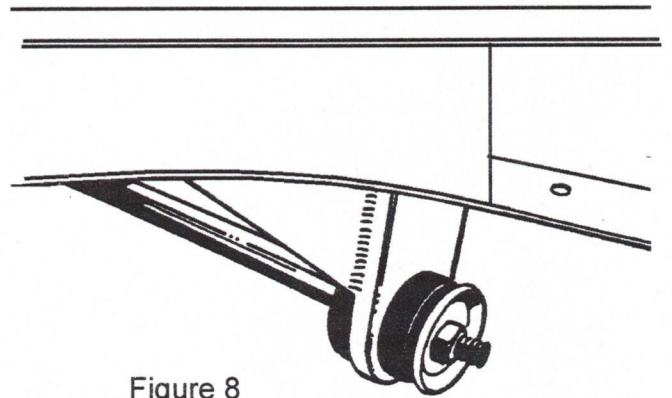

Figure 8
12. Install the strut rod onto the control arm. Now, assemble onto the strut rod the large rubber bushings, including the cupped washers, and the strut mount plate. Be certain to fully tighten the nut on the strut rod to its' fully seated position. (See Figure 8) There are two rubber bushing sets available; the standard replacement and the improved set. We recommend the improved set, as it provides more stability to the front suspension. The Pinto and Mustang strut rods are different lengths. We recommend the use of Pinto strut rods, as they are bent less than the Mustang strut rods. You will find that with either strut rod the strut rod plate does not line up with the bottom of the frame rail. The strut rod must be heated in the elbow area and bent outward. The rod is bent outward until the strut mounting plate lines up to the frame rail. You will find that because the Pinto strut rod is initially bent less and requires much less bending. The strut rod will act as an alignment fixture while you tack weld the mount plate in place, then tack weld the gusset in place. Remove the strut rod, bushings, and arm, and finish welding to the frame and each other.